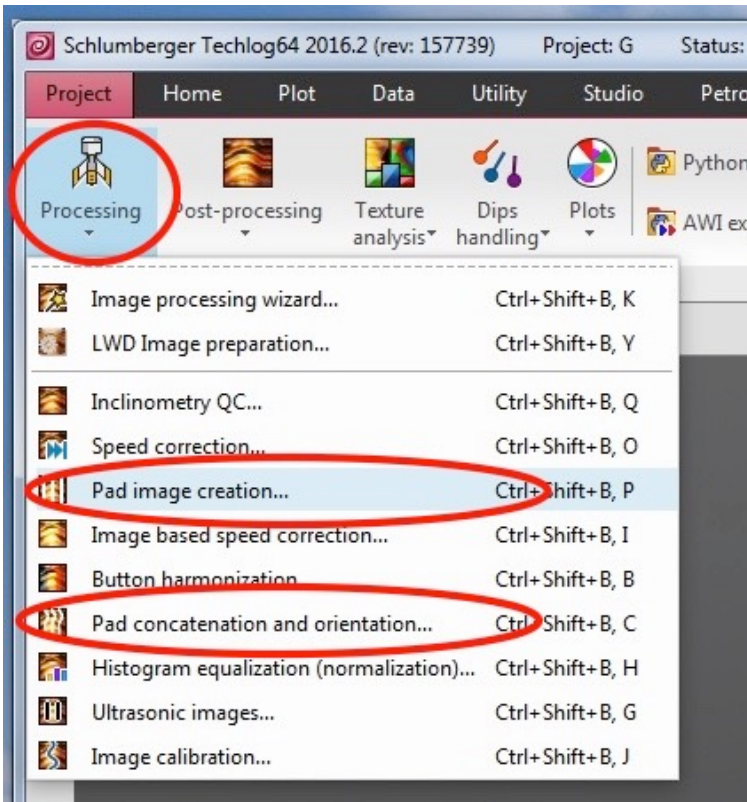

Figure 4: List of imagery-related processing steps.
1. Under the Geology menu > Processing, select Pad image creation (Fig. 4)
- Under the Geology menu > Processing, select Pad concatenation and orientation (Fig. 4). A new window will open, and this time, there is an option to select FMS\_4 - select this, and click "Create". Note: If the well contains datasets with similar variable names, it is a good practice to re-select the variables, or better yet, group the datasets before starting the entire workflow.